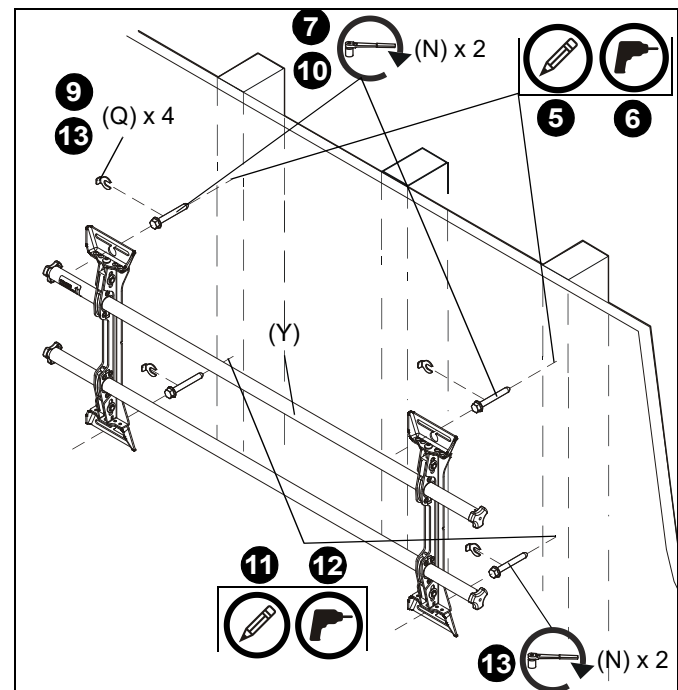

Figure 2
5. Using a level, mark the wall on each stud to attach the mount through the upper mounting slots. (See Figure 2)
7. Partially install two 5/16 x 2-1/2" flanged lag bolts (N) into pilot holes but do not tighten to wall.
8. Hang mount (Y), aligning upper mounting slots over lag bolts and adjust side-to-side for proper location.
9. Place one slotted washer (Q) over each flanged lag bolt. (See Figure 2)
10. Tighten lag bolts to secure mount (Y) to wall at upper mounting slots.
11. Mark the attachment points for the lower mounting slots, making sure the attachment points are located on the studs. (See Figure 2)
12. Drill 7/32" (5.5mm) pilot holes at markings for lower mounting holes. (See Figure 2)
13. Use two 5/16 x 2-1/2" flanged lag bolts (N) and two 5/16" slotted washers (Q) to attach the mount to the wall through the lower mounting holes. (See Figure 2)